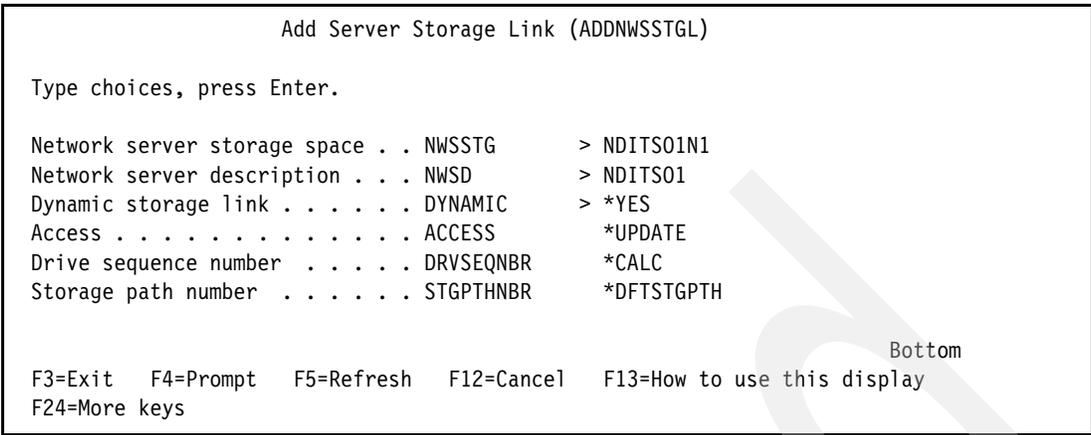

Figure 6-100 Add Server Storage Link window
6. The Add Server Storage Link (ADDNWSSTGL) display appears (Figure 6-100 on page 248). Type for **Network Server Description** (NWSD) the same as where the “old” system drive is linked and for **Dynamic storage link** (Dynamic), type *YES. Three other parameters appear. Leave these as the defaults, and press Enter.